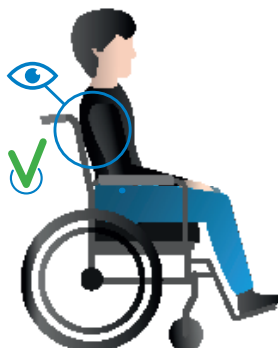

Figure 17: Lean against back support
1. Allow the client to lean against the back support (see Figure 17).
1. Have the client lean against the back support (see Figure 17).